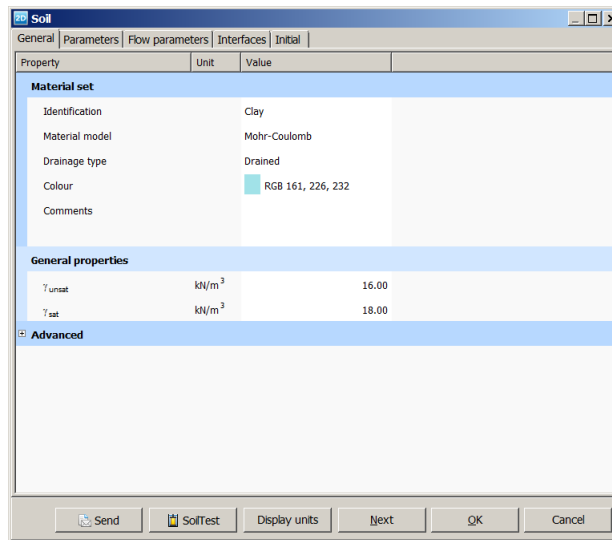

Figure 7: General tabsheet of the soil and interface data set window for Clay
- Click on the <New> button at the lower side of the *Material Sets* window. A new dialog box will appear with five tabsheets: *General*, *Parameters*, *Flow parameters*, *Interfaces* and *Initial* (see figure 7).